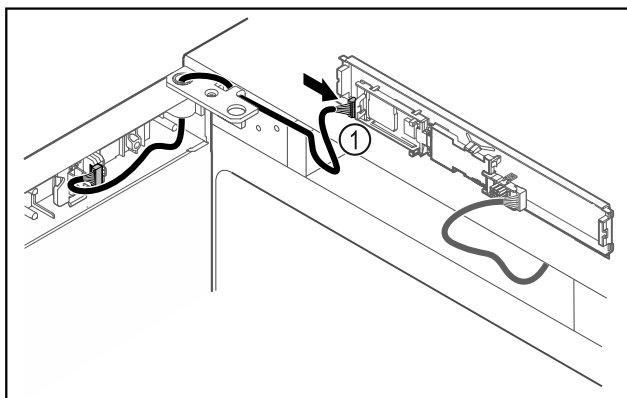

Fig. 44
- Connect the plug Fig. 44 (1) to the circuit board.